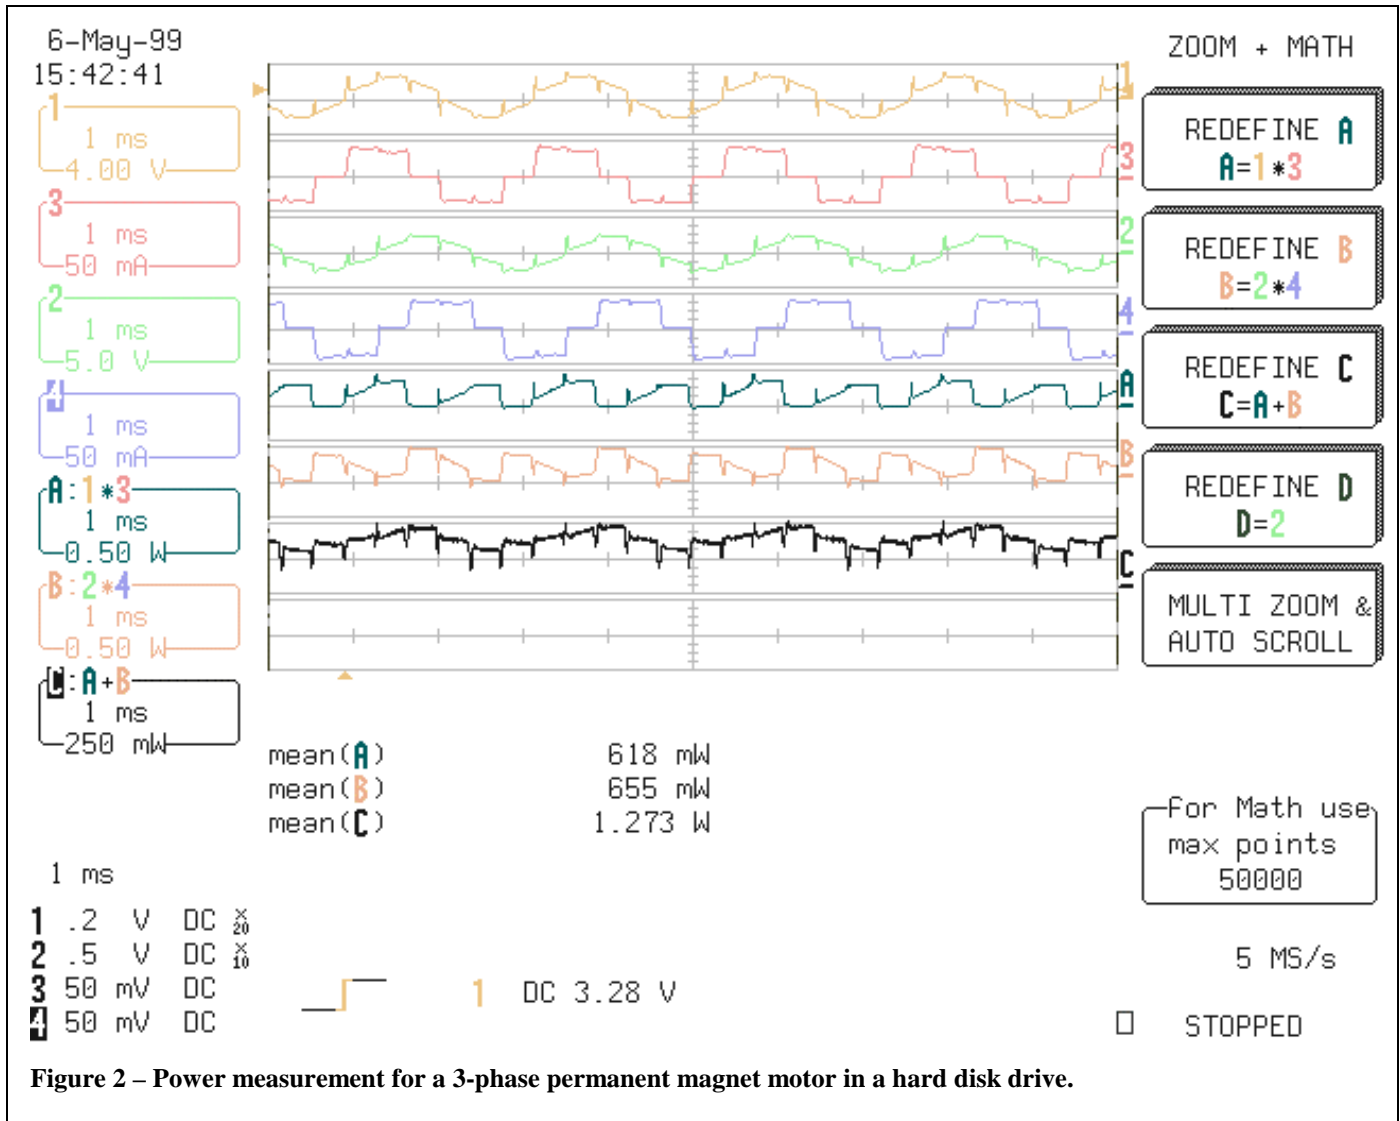

Figure 2 – Power measurement for a 3-phase permanent magnet motor in a hard disk drive.
Figure 2 shows a power measurement for a 3-phase permanent magnet (PM) motor for a hard disk drive. The motor was configured in a WYE